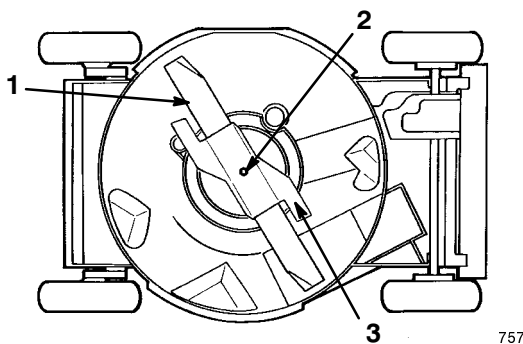

Figure 22
- Tip the lawn mower onto its **right** side (Fig. 22).
- Remove the blade bolt, the lockwasher, the accelerator, and the blade (Fig. 22).